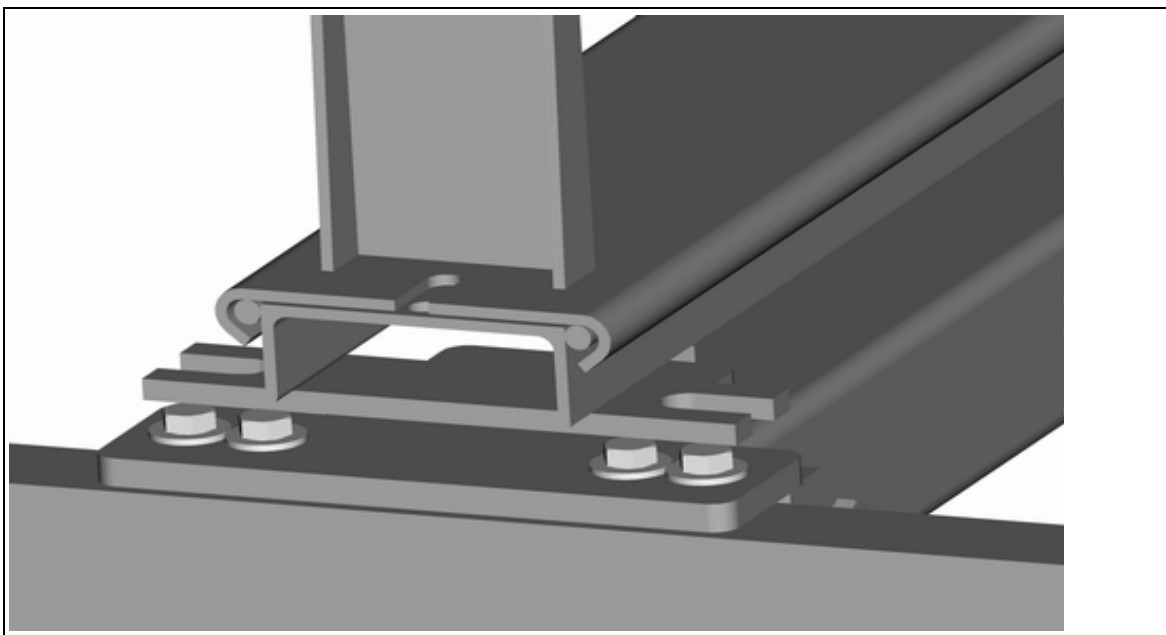

Fig. 19: Fix the installation frame
8. Fix the installation frame with screws (Fig. 19) and tighten all screws in the installation frame.